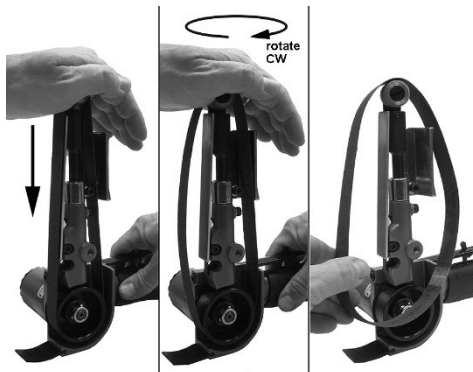

Figure 6: JAT-752
3. Steady sander with one hand. Push down on idle pulley assembly and turn 1/8 of a full turn clockwise to lock in place. See Figure 6.